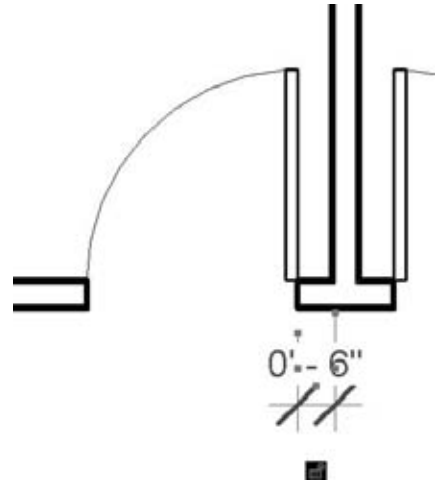

Figure 4.98
6. Select the dimension and click the lock icon. This creates a fixed constraint between the door and the wall (Figure 4.98).